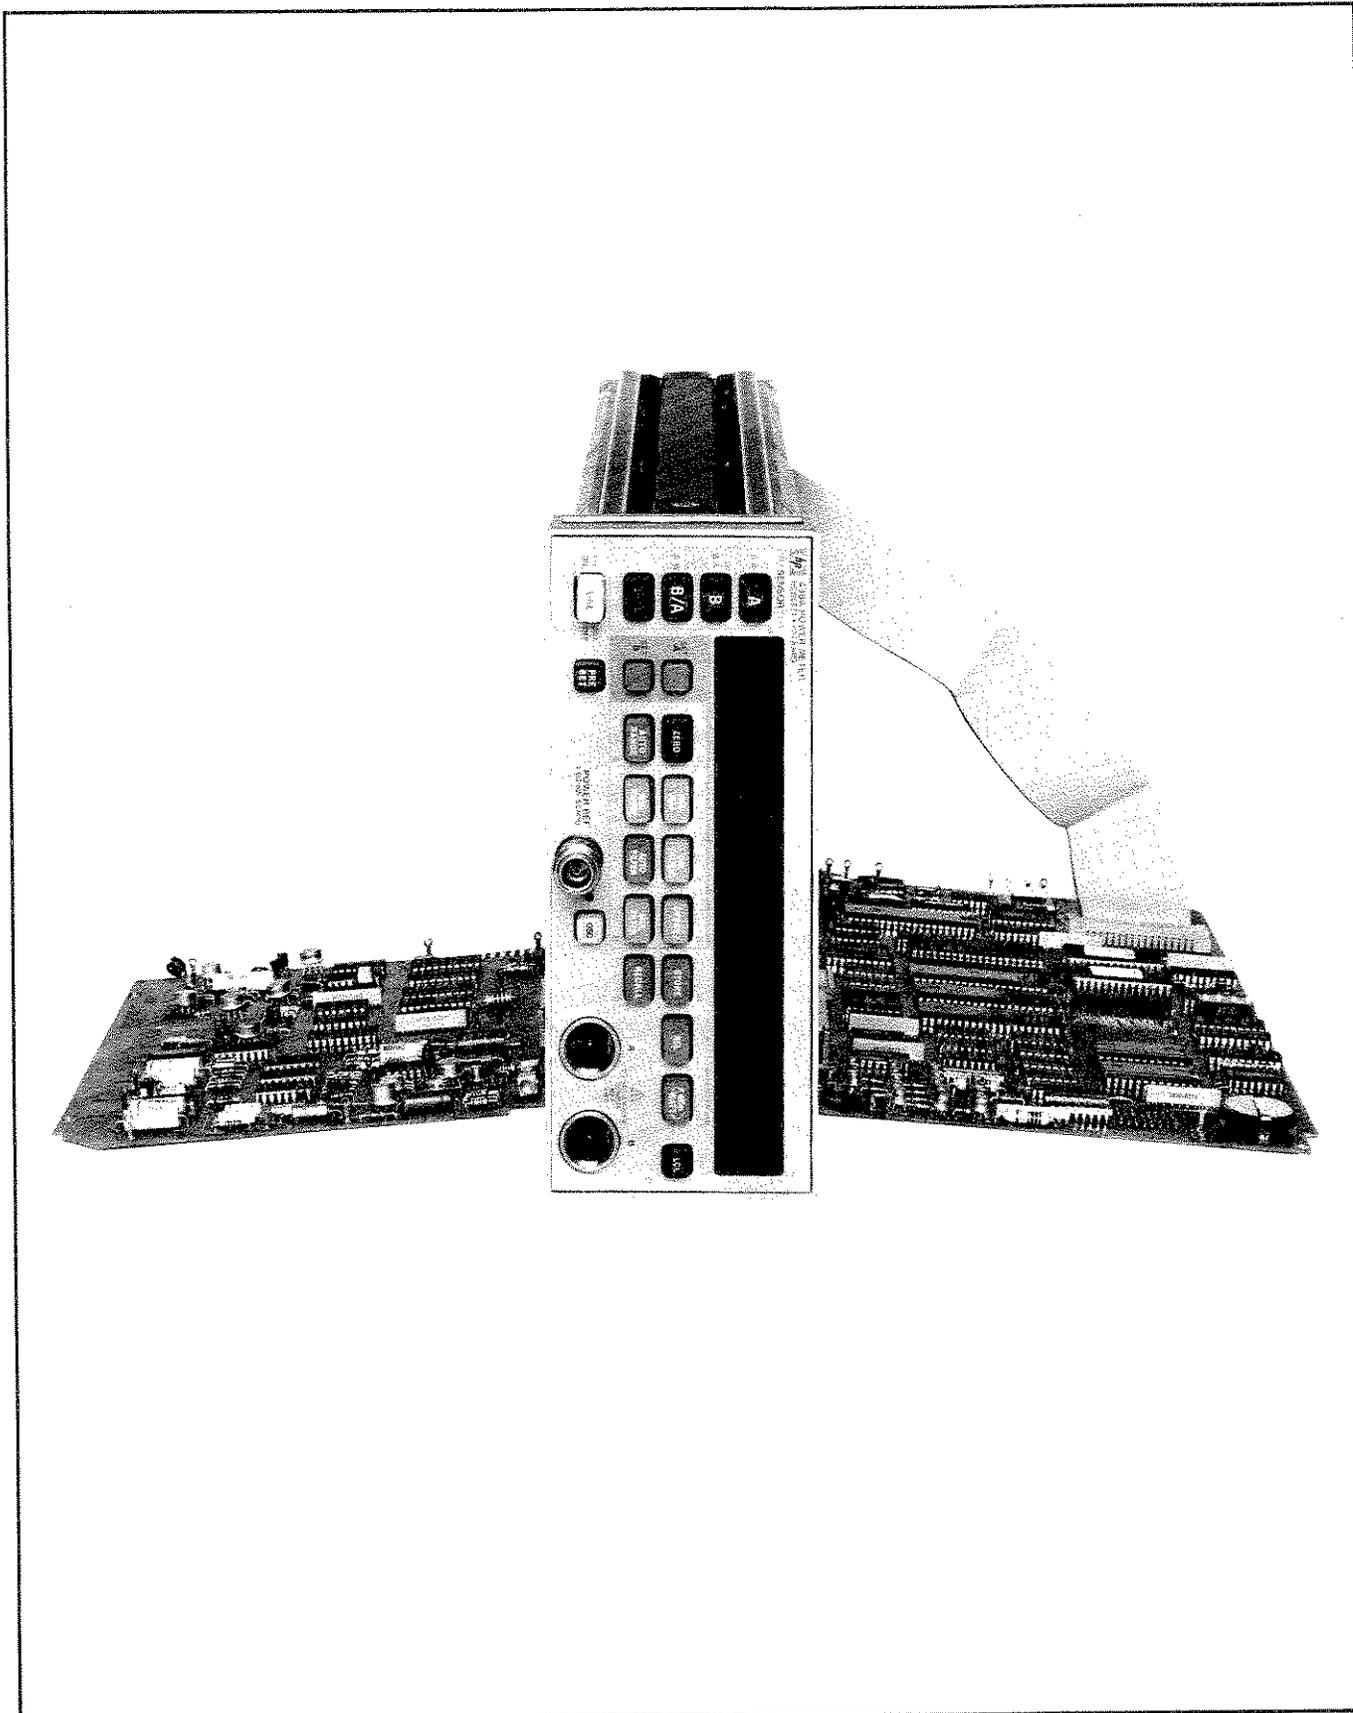

Figure 8-6. Power Meter Service Position
**Procedure.** To perform the line check remove the power meters' top and bottom covers. Unscrew the three captive screws holding the A3 CPU Assembly and the two captive screws holding the A5 Main Amplifier Assembly. Swing the hinged printed circuit boards out to the service position. See Figure 8-6 showing this position. After the covers are removed and the assemblies are in the service position connect the line power cable. Press the LINE key to the ON position. The normal indications are: